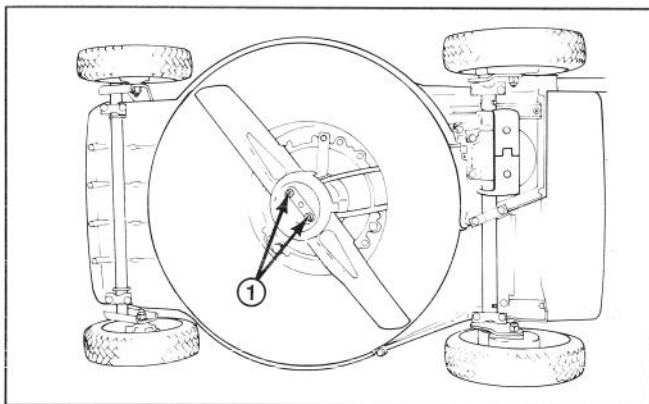

Figure 22
3. Tip mower on its right side (Fig. 22). Avoid rotating blade as starting problems may result.
5. **REMOVING BLADE**—Grasp end of blade using a rag or thickly padded glove. Remove (2) locknuts, (2) washers, anti-scalp cup, and blade (Fig. 22 & 24).